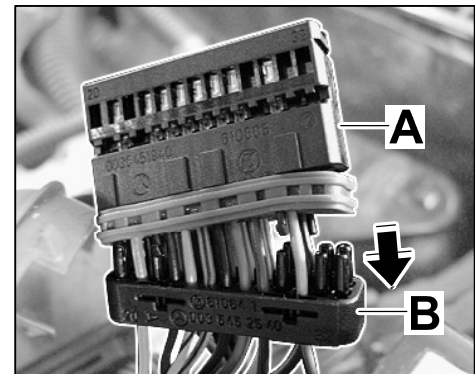

Figure 21
- 4.4.4 Pull plug bush ⇒ *Figure 21 -B-* out of the plug socket ⇒ *Figure 21 -A-*.